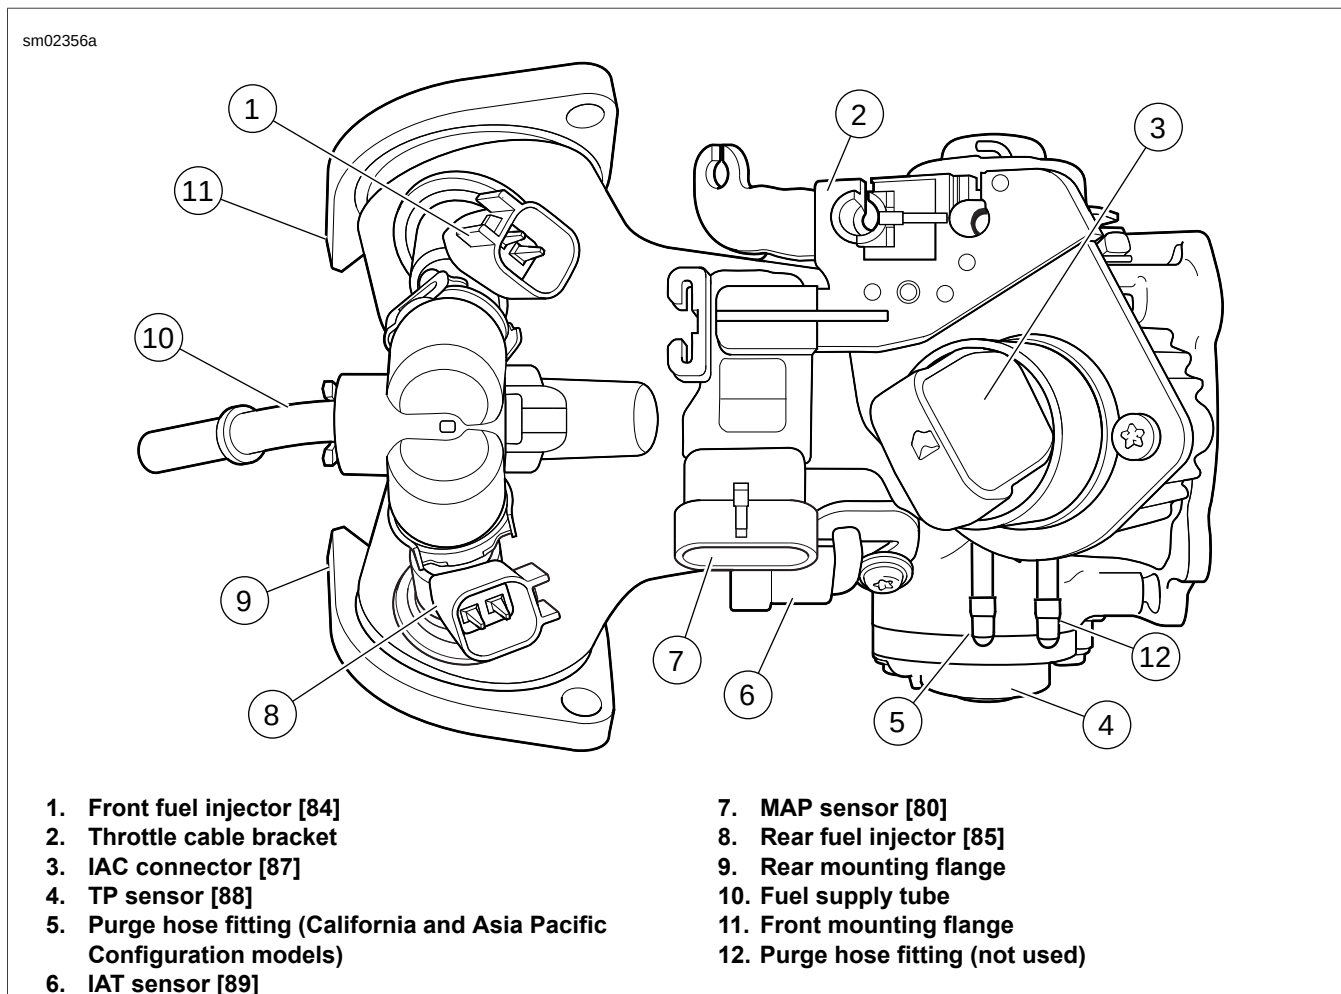
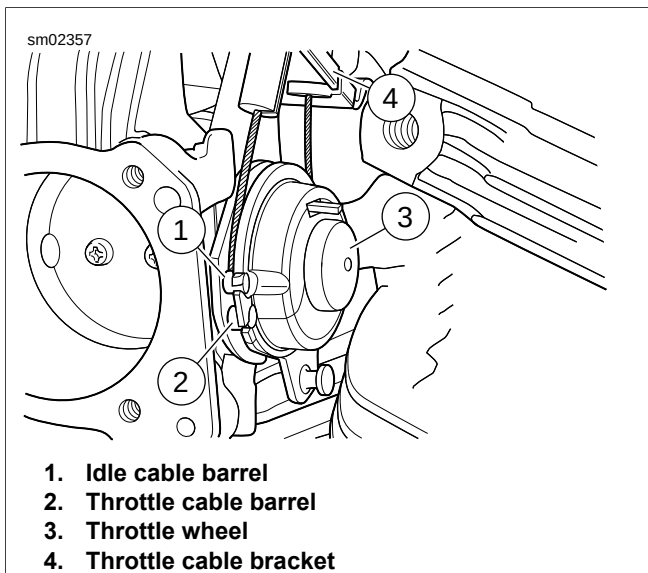

Figure 4-19. Induction Module
Figure 4-20. Throttle/Idle Cables
4. See Figure 4-19. Pull purge hose from fitting (5) at top of induction module (California and select models only).
5. See Figure 4-20. Pull idle cable barrel (1) from upper hole in throttle wheel. Pull throttle cable barrel (2) from lower hole. Using slots, release idle and throttle cables from guides in throttle cable bracket.
6. See Figure 4-19. Remove idle air control connector (3) [87] and manifold absolute pressure sensor connector (7) [80].
1. See Figure 4-19. Place a **new** seal in each mounting flange (9, 11) with the beveled side in against the counter-bore.
4. See Figure 4-20. Install sleeve on throttle cable housing into cable guide at top of throttle cable bracket (4).
5. Drawing throttle cable downward, fit barrel end (2) into lower hole in throttle wheel (3).
6. Install sleeve and spring on idle cable housing into cable guide at bottom of throttle cable bracket. Insert barrel end (1) into upper hole in throttle wheel.
8. See Figure 4-19. On California and select models, attach purge hose to fitting (5) on throttle body.
9. Connect front (1) and rear (8) fuel injector connectors, IAC (3) connector, MAP sensor (7) connector, TP sensor (4) connector and IAT (6) sensor connector.